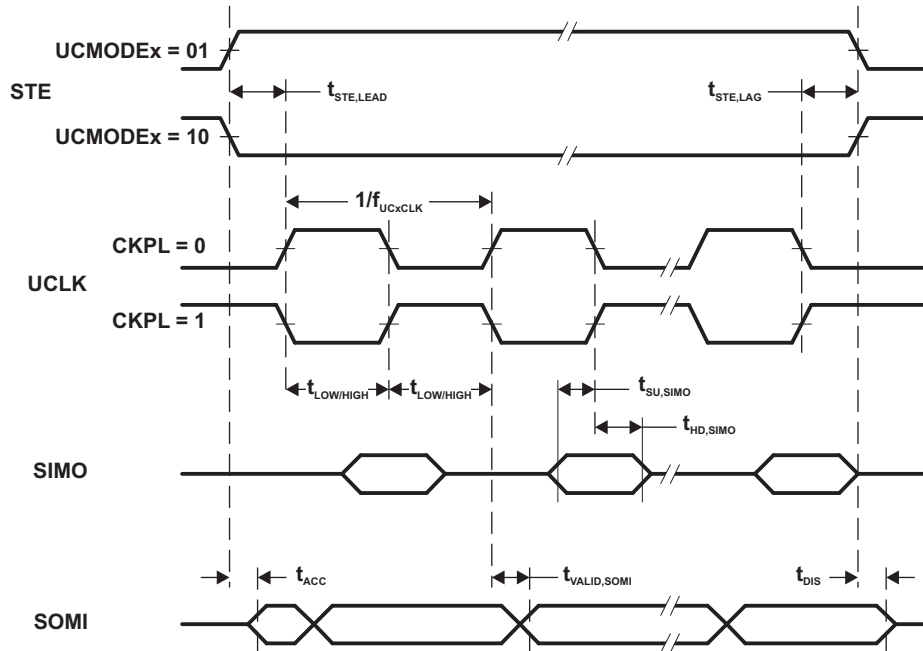
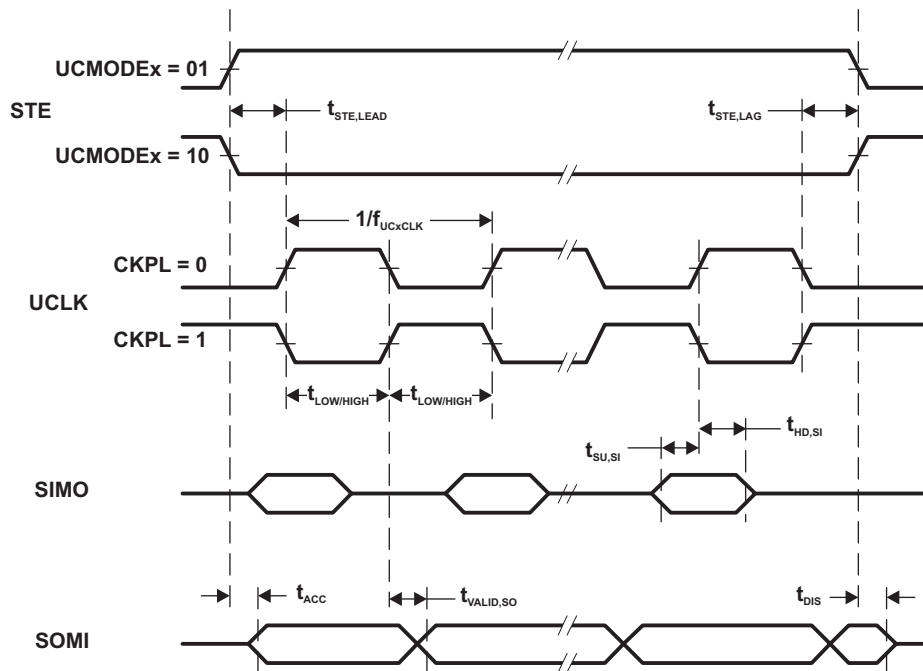

Figure 7. SPI Slave Mode, CKPH = 0
Figure 8. SPI Slave Mode, CKPH = 1
(1) $f_{UCXCLK} = 1/2t_{LO/HI}$ with $t_{LO/HI} \geq \max(t_{VALID,MO(Master)} + t_{SU,SI(eUSCI)}, t_{SU,MI(Master)} + t_{VALID,SO(eUSCI)})$.For the master's parameters $t_{SU,MI(Master)}$ and $t_{VALID,MO(Master)}$ see the SPI parameters of the attached slave.(2) Specifies the time to drive the next valid data to the SOMI output after the output changing UCLK clock edge. See the timing diagrams in Figure 7 and Figure 8.(3) Specifies how long data on the SOMI output is valid after the output changing UCLK clock edge. See the timing diagrams in Figure 7 and Figure 8.